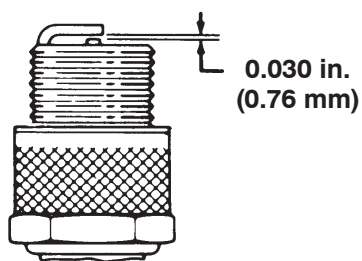

Figure 21
4. Set the air gap between the center and side of the electrodes at 0.030 in. (0.76 mm) (Fig. 21). Install the correctly gapped spark plug with gasket seal, and tighten the plug to 200 in.-lb. (23 N·m). If a torque wrench is not used, tighten the plug firmly.